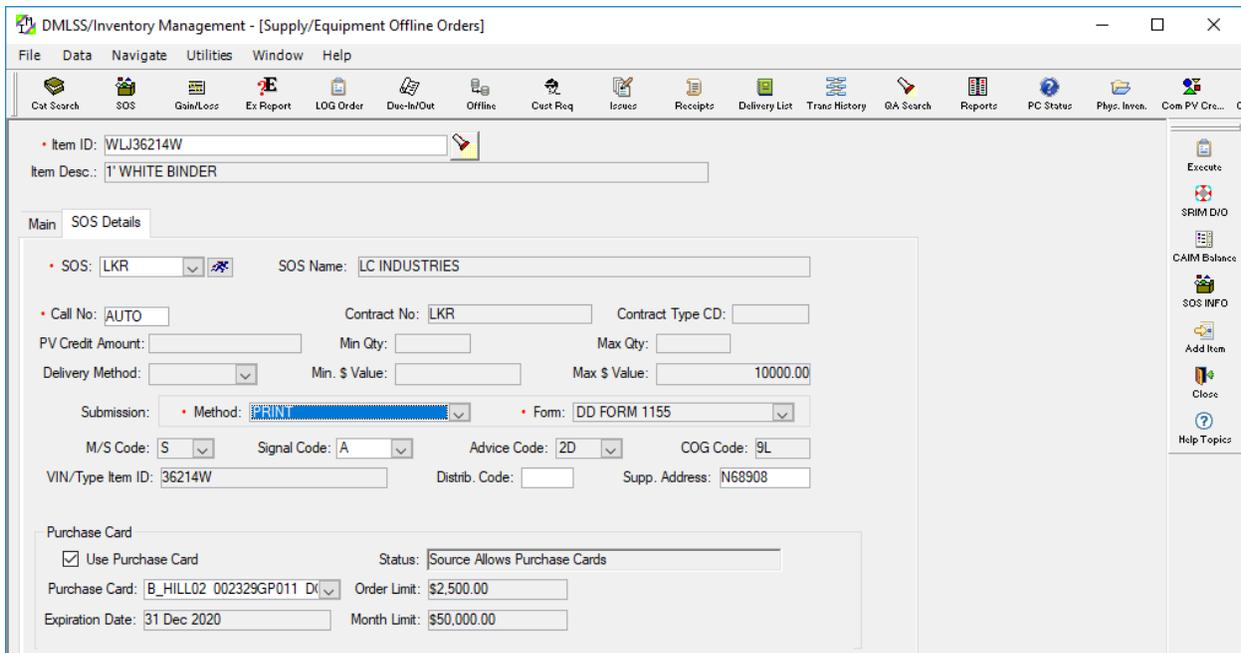

Figure 23. Offline Orders, Source of Supply Tab
2. The following items are located on the SOS Tab (Figure 23).